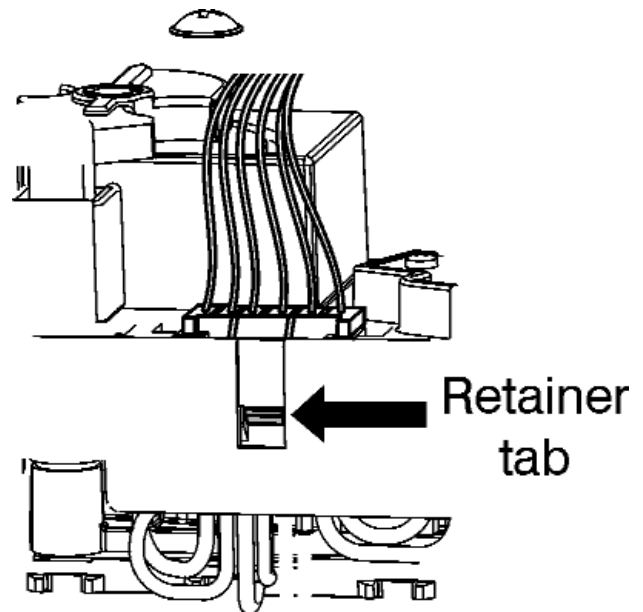

Figure 35. Wiring block removal
8. Remove the wiring block from the front of the valve. To do this press the retainer tab on the base of the valve (See figure 35) whilst gently pulling on the leads.